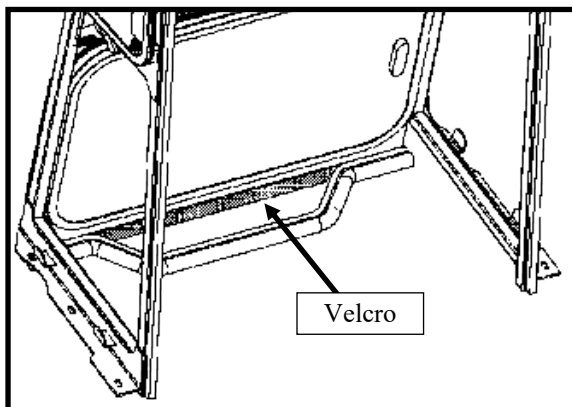

Figure 18.3: Attach Velcro to Backhoe Cab
- 18.3 Attach another section of the supplied velcro to the backhoe cab as shown in Figure 18.3.